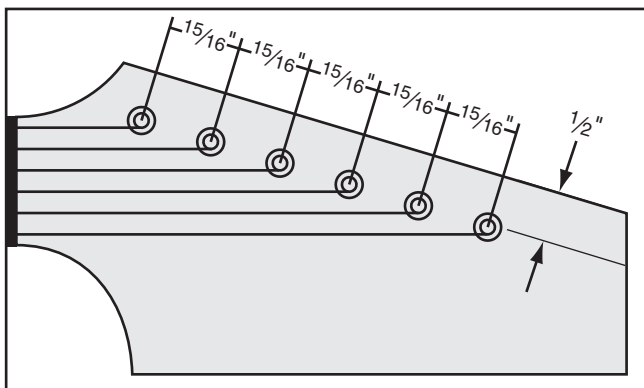

Figure 6. String paths and peghole locations.
2. Layout pegholes for the tuners. Space the centers of the pegholes exactly 15/16" apart, and a minimum of 1/2" from the edge of the headstock, as shown in **Figure 6**.